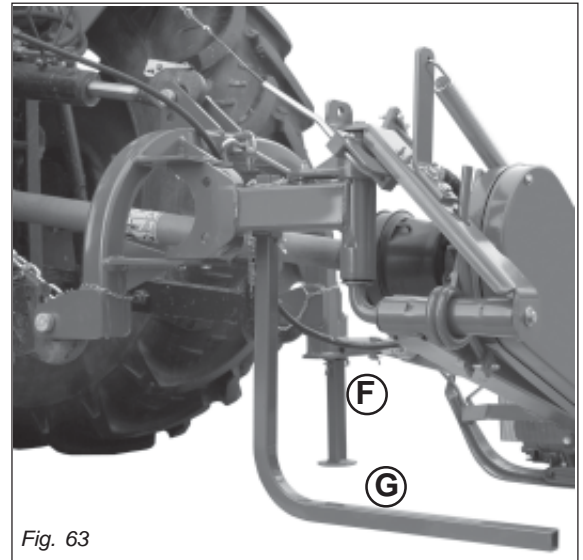

Fig. 63
- Lastly, store the implement in a dry place where it cannot be tampered with by unauthorized persons; the mowing machine must be set-up on flat and compact ground, supported by the relative supports (F and G, Fig. 63).